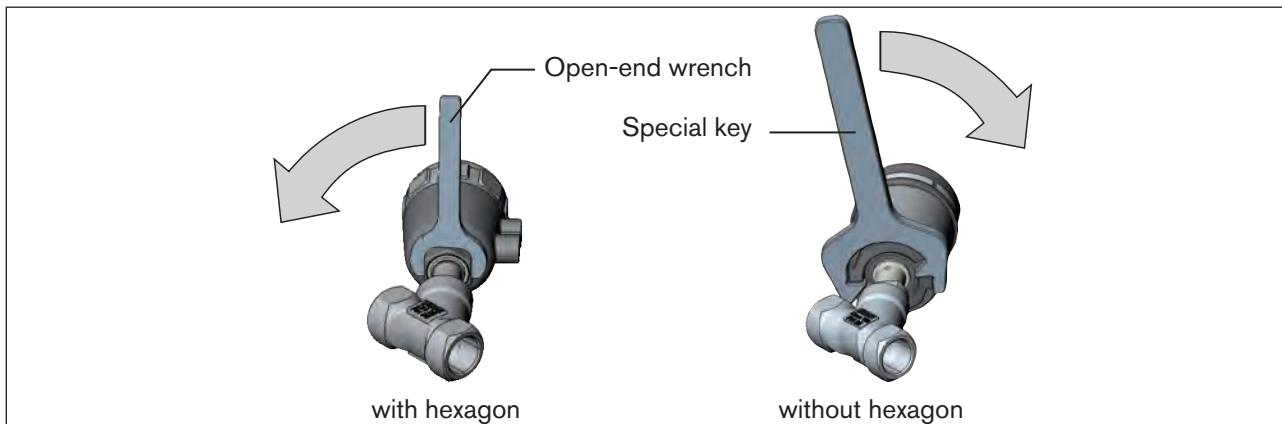

Figure 30: Rotating with special key / open-end wrench
- Rotate the actuator module in the specified direction only (see "Figure 30") .